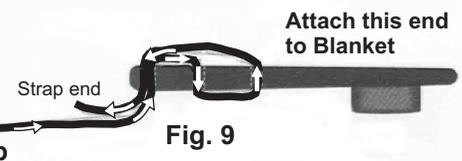

Fig. 9
- Attach a Strap Plate to one end of all Straps provided (see Fig. 9).**